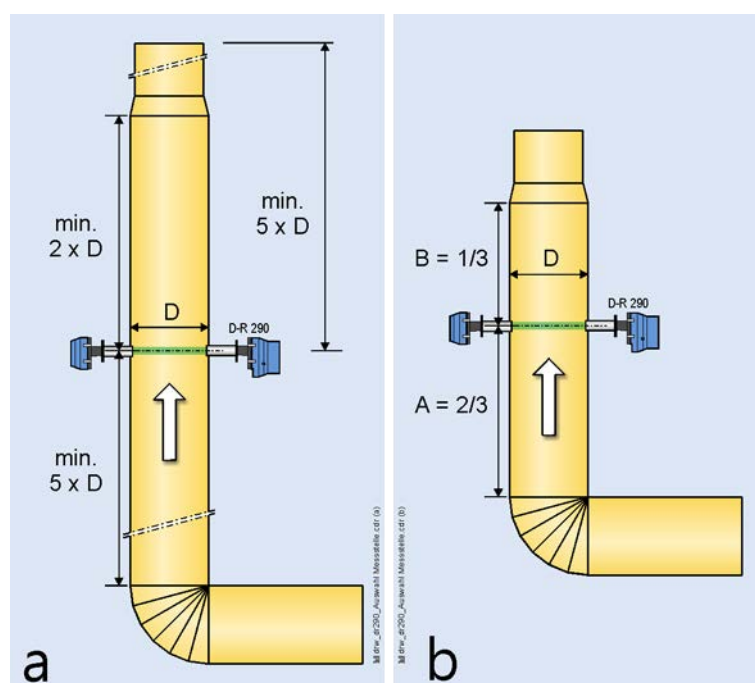

Fig. 5.2: Measuring point
The measuring point should *not* be just before or just after bends in the duct or changes in its cross-section. The upstream section (duct section leading up to the measuring point) should be at least $5 \times D$ (D = internal diameter of the duct) and the downstream section (duct section leading away from the measuring point) should be at least $2 \times D$ (see Fig. 5.2 a). If no such location is available, the upstream section (A) should be longer than the downstream section (see Fig. 5.2 b).